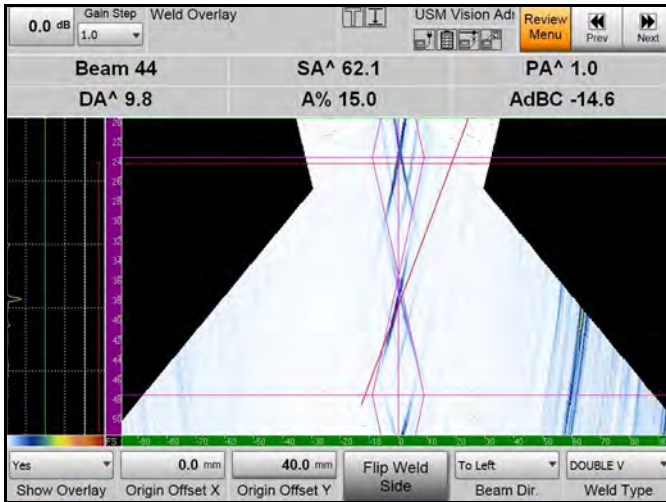

Figure 65: Weld Overlay with Flip Button
2. Set up the dual sector scan in the following sequence, shown in Figure 65 on the next page: